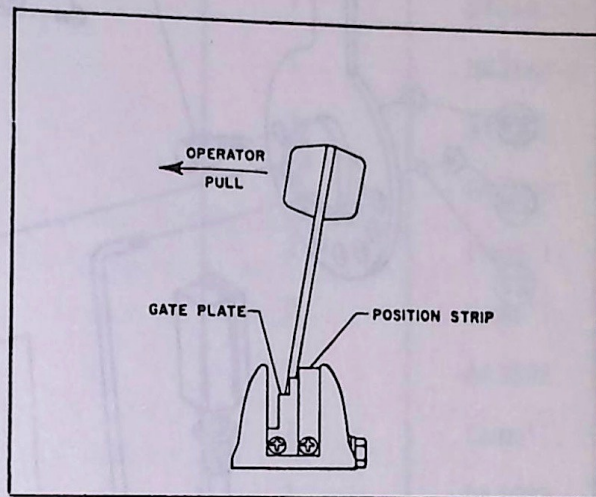

FIGURE 1-6
1.6.2 The gate plate on the quadrant should be installed so that the operator pulls on the hand lever to disengage from the gate plate detents. See Figure 1-6.